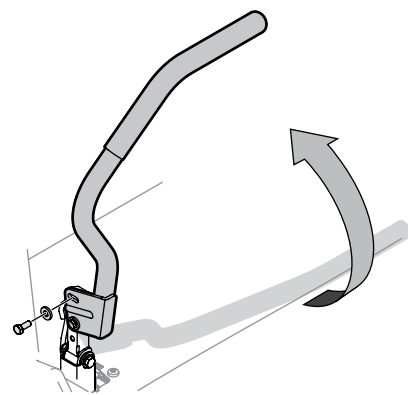

Figure 8
1. Pivot the right lap bar upward and fasten it to the mounting bracket with a hex screw and flat washer packed separately. Refer to Figure 8. Do *not* tighten at this time.